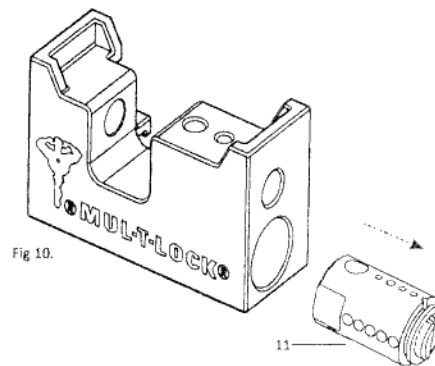

Fig 10.
⑧
Pull cylinder (11) out from lock body (Fig 10) with operating key.